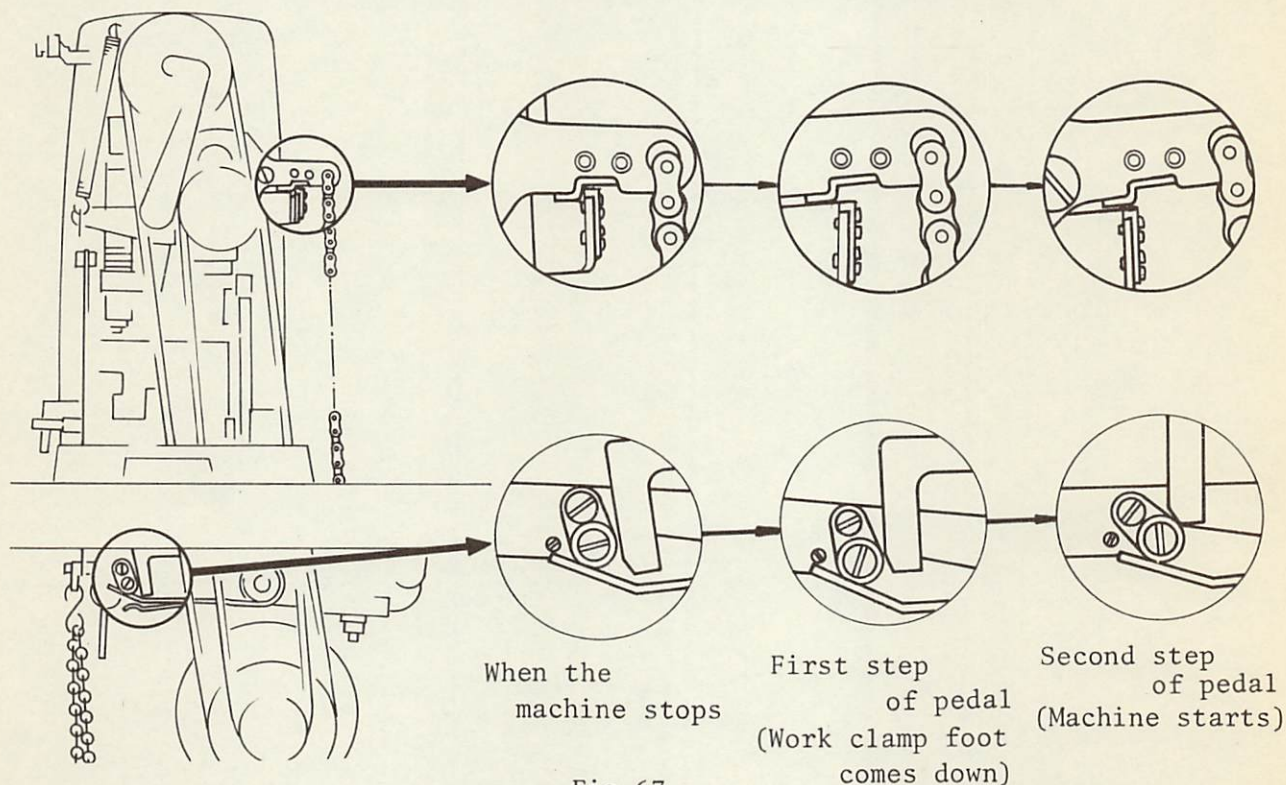

Fig.67
- 1) The order of operation of the machine and the pedal is same as the previous AO-8 unit and operates in the order as shown in Fig.67. The work clamp foot goes up at the same time with the stop-motion of the machine.